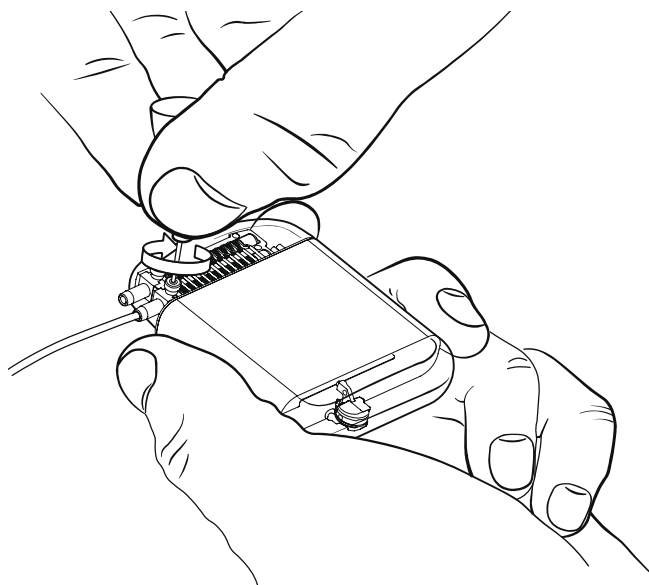

Figure 6.4: Tightening the port screws until you hear a "click".
7. When satisfied that the leads or lead extensions are correctly inserted, use the torque wrench (supplied in the CLS kit) to tighten the setscrew on each port until you hear a “click” (refer to Figure 6.4).